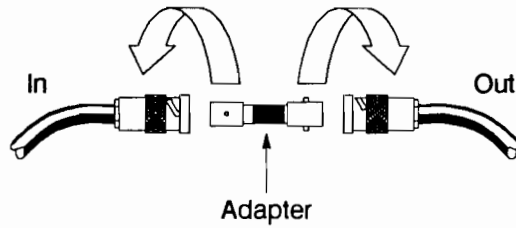

Figure 8-11. Disconnecting the Adapter Between Cables
7. Disconnect the adapter between the cables in your network labeled IN and OUT as shown in Figure 8-11.